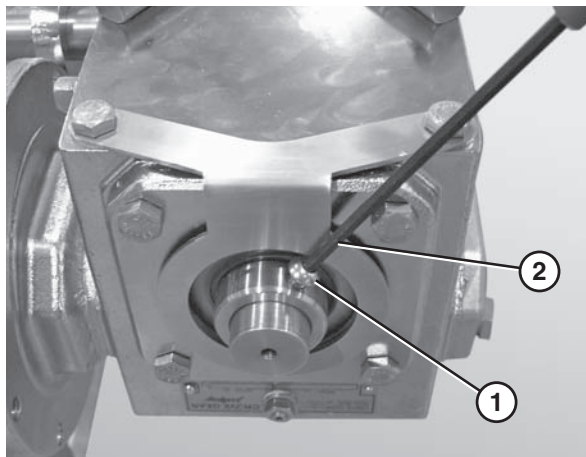

Figure 8
5. Tighten the drive spindle fasteners (**Figure 8, item 1**) located on the inside and outside of the gearmotor using a hex wrench (**Figure 8, item 2**).